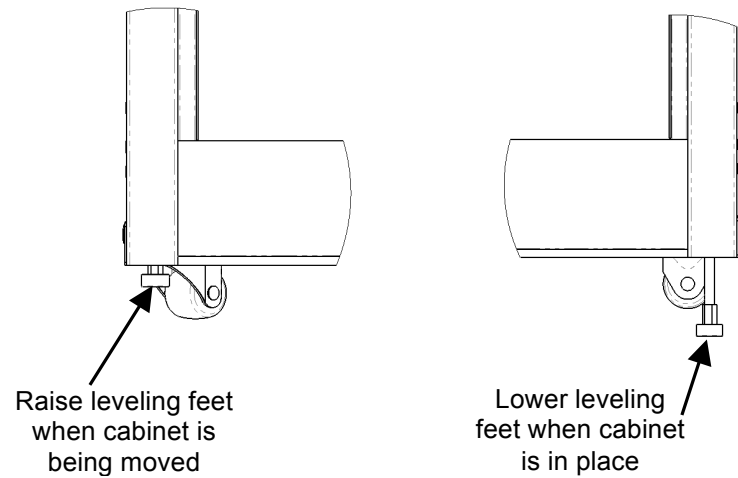

Fig. 2
4. Using a Phillips head screw driver, install the four leveling feet (Fig. 2).